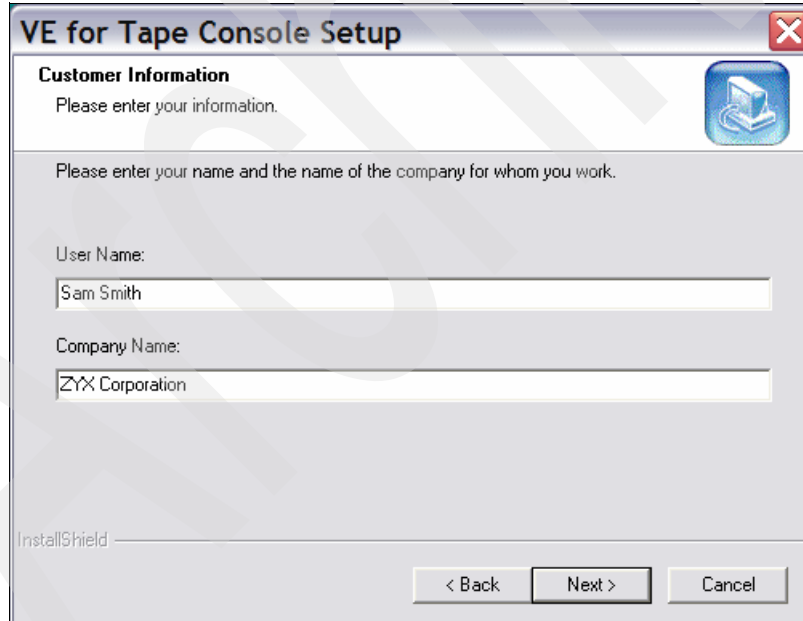

Figure 5-18 IBM Total Storage Virtualization Engine TS7510 Console: Customer Information
3. Type in your user name and company name, as shown in Figure 5-18.